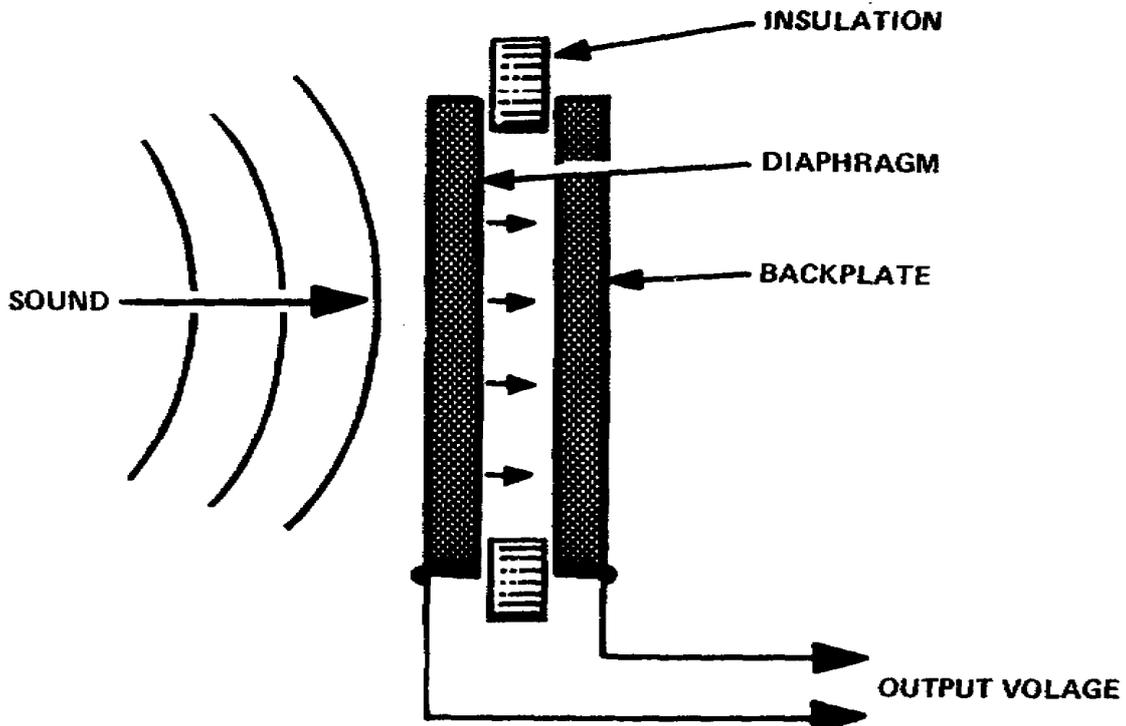

Figure 2-29. Capacitor (condenser) microphone
(3) Principles of operation. A metallic ribbon is suspended between the poles of a permanent magnet which vibrates freely in a magnetic field. This ribbon, constructed of a thin aluminum strip, serves as the diaphragm. Movement of this ribbon by a sound wave causes the magnetic lines of force to be cut crosswise, creating a corresponding voltage between the two ends of the ribbon.
g. Capacitor (Condenser) Microphone. These microphones get extensive use in recording studios because of the broad frequency range, low distortion, little internal noise, and excellent sensitivity (fig 2-29). But, due to their principle of operation, they require a preamplifier as an integral part of the housing, plus a power supply for the preamplifier. They also require an output transformer that converts the extremely high impedance of the microphone capacitor head to a low impedance for unlimited cable length. Their quality and principle of operation combine to make them the most expensive professional microphones.